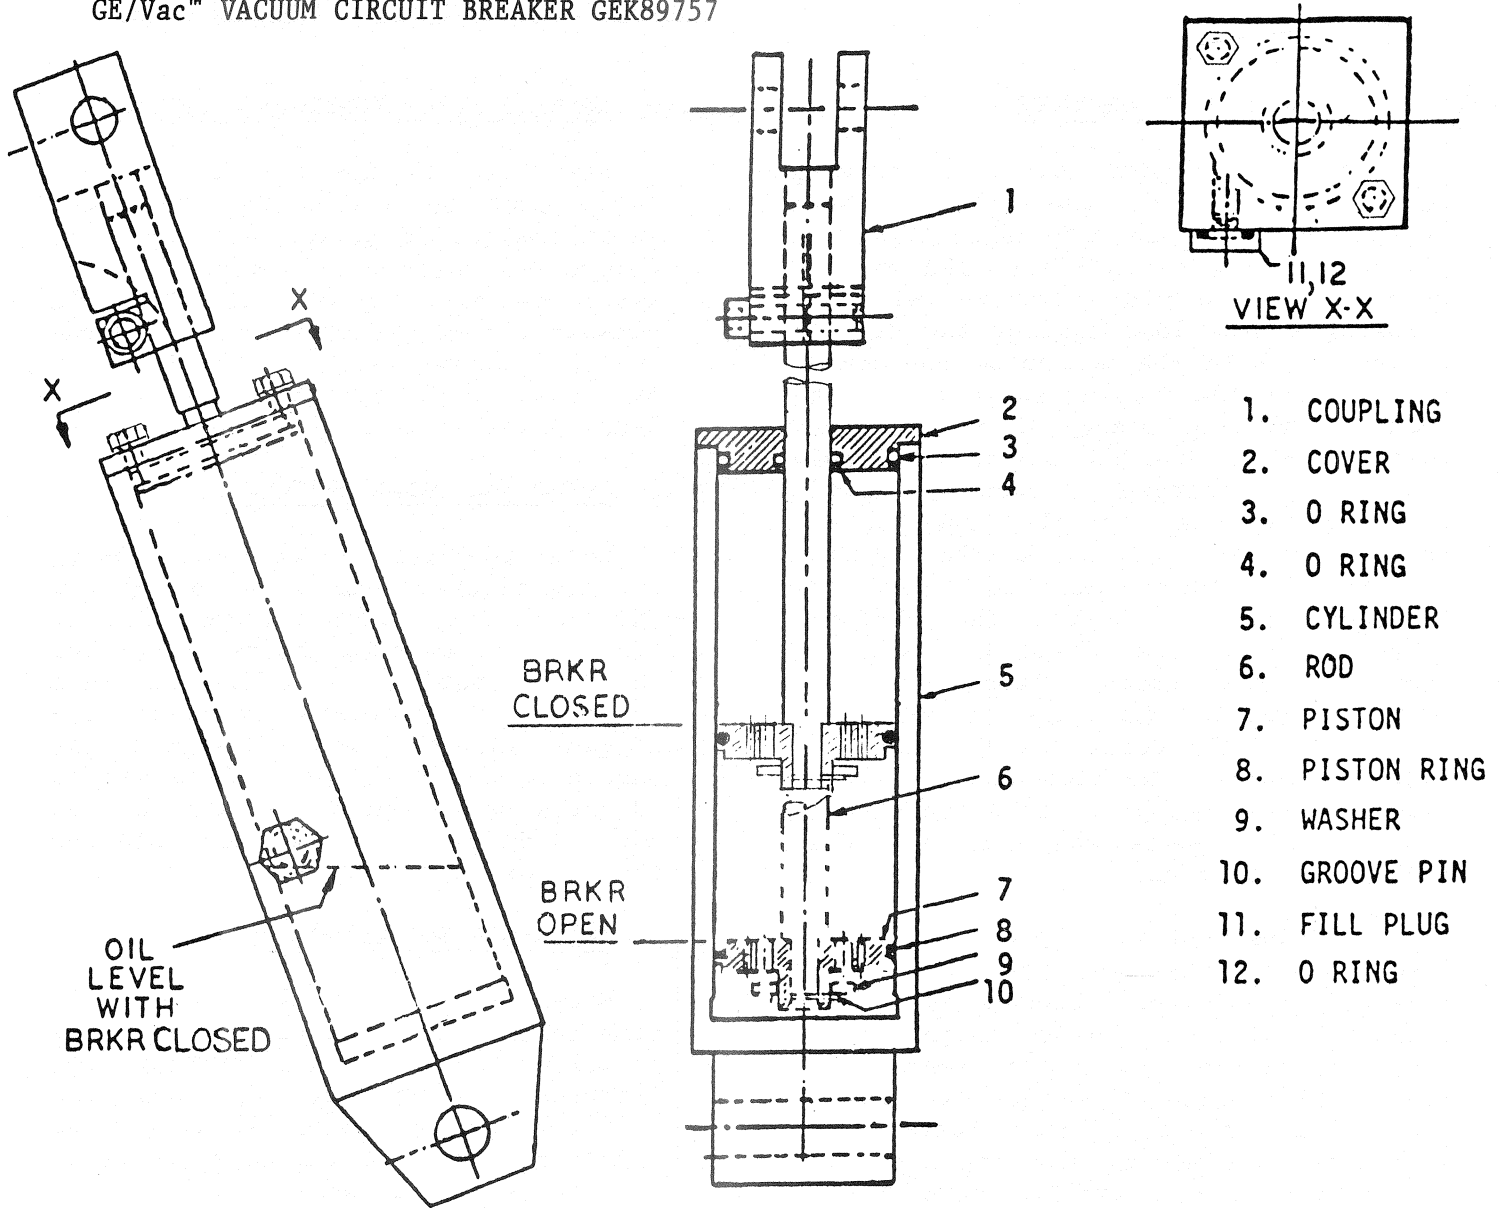

FIGURE 15 DASHPOT ASSEMBLY
The dashpot Figure 15 is adjusted to stop the contacts and linkage and limit overtravel to safe limits.
breaker in the closed position and the opening springs blocked. The fill plug (11) Figure 15 should be removed and dashpot grade oil as recommended in the lubrication chart should be added to the lower level of the hole. Dashpot action can be checked using a travel recorder such as a "Cincinnati Recorder". An adapter (0114C5314G001) is available for this purpose. To obtain less dashpotting, screw the piston shaft into the coupling. Adjust one-half turn (180°) at a time.